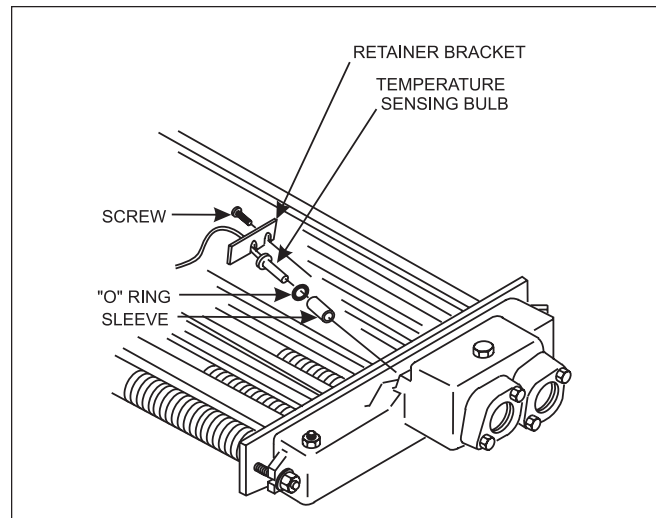
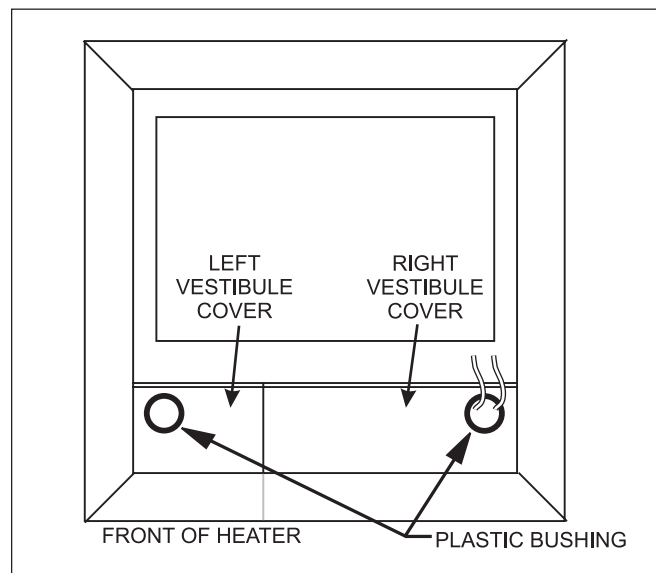

Figure 9. Temperature sensing bulb.
Figure 10. Vestibule covers.
10. Loosen the screw securing the temperature sensing bulb retainer bracket. Slide the retainer bracket off the bulb flange and remove the bulb from the header (see Figure 9). Pull pressure switch tube through the hole in the vestibule cover and into the vestibule (controls compartment), then pull thermostat bulb assembly through same hole (see Figure 10).